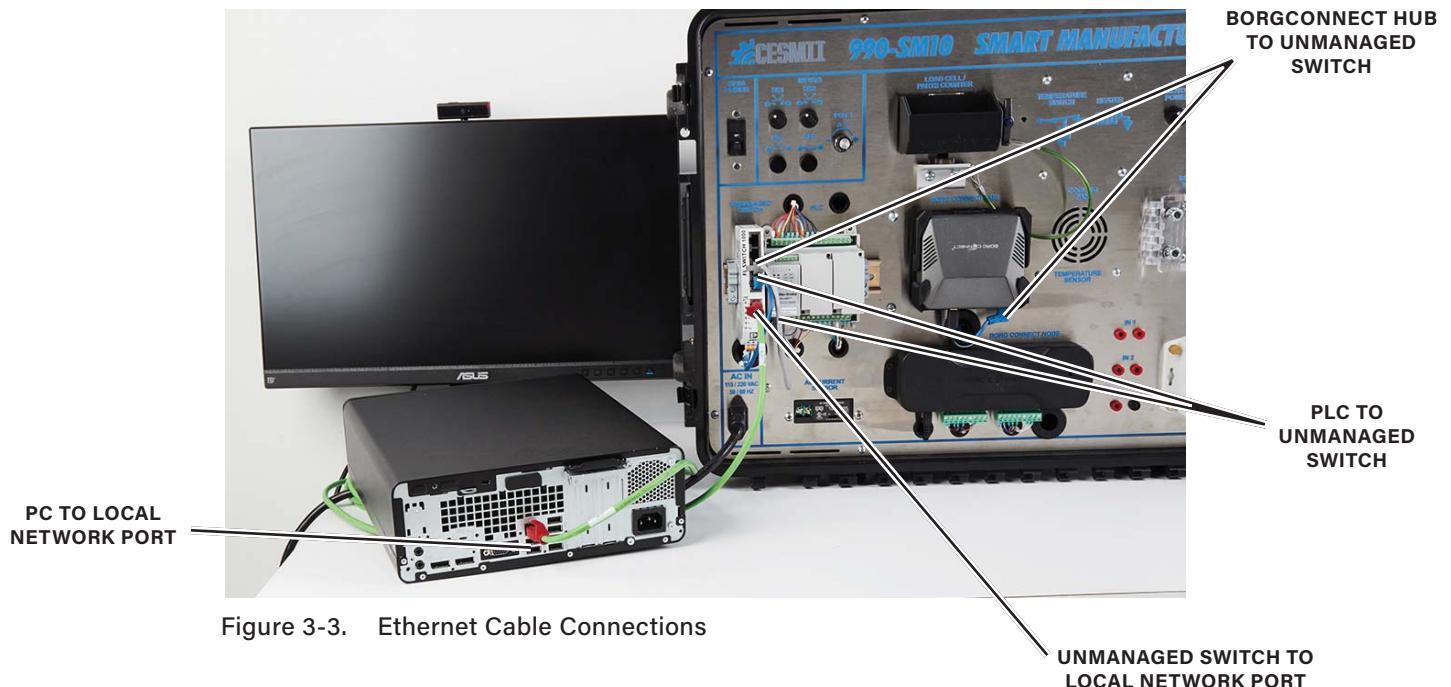

Figure 3-3. Ethernet Cable Connections
- Connect the Ethernet cables between the unmanaged switch, PLC, PC, and local network port, as shown in figure 3-3.